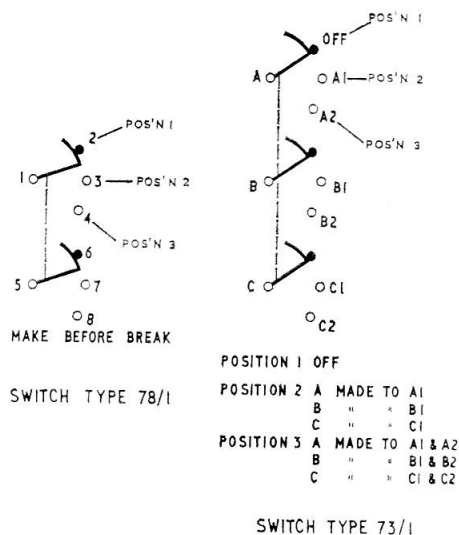

Fig. 2. Switch positions
direction. Fig 2 shows position 1 (OFF), all contacts open, position 2 (SLOW), three contacts make (position 2 contacts remain made) and at position 3 (FAST), further three contacts make.
7. With the SW.78/1, 2-pole, 3-way switch (fig. 2) when operated gives three contact positions on each pole.